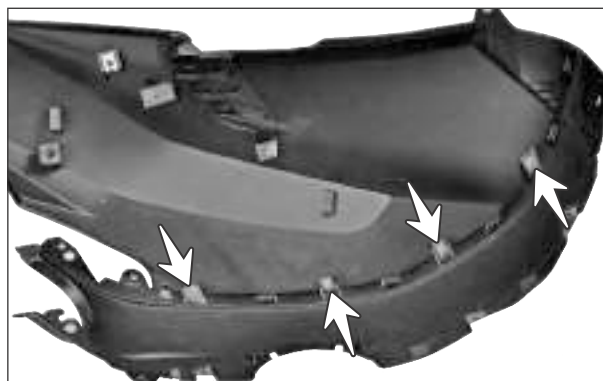

Fig. 2.18
- Remove the CRR flanged pan head tap screw (ST4.2x13 - 4 nos.) from the mounting of cover fuel tank outer L. (Fig. 2.18)